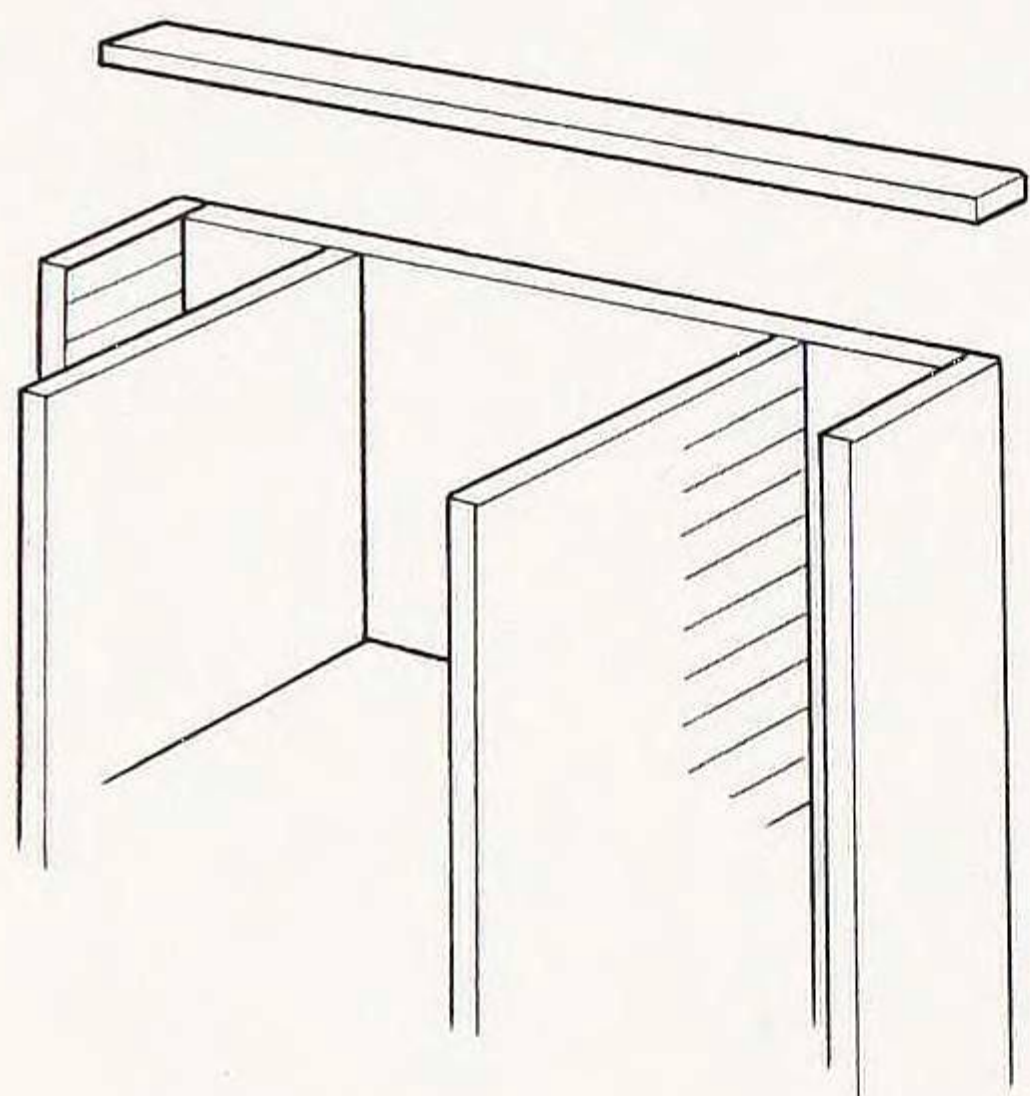

Fig. 4 Applying the rear top batten
5. Let the glue cure and then apply the rear top batten onto which the hinged top will fit (Fig. 4) and then fit the plinth (Fig. 5). Your main structure is now finished.